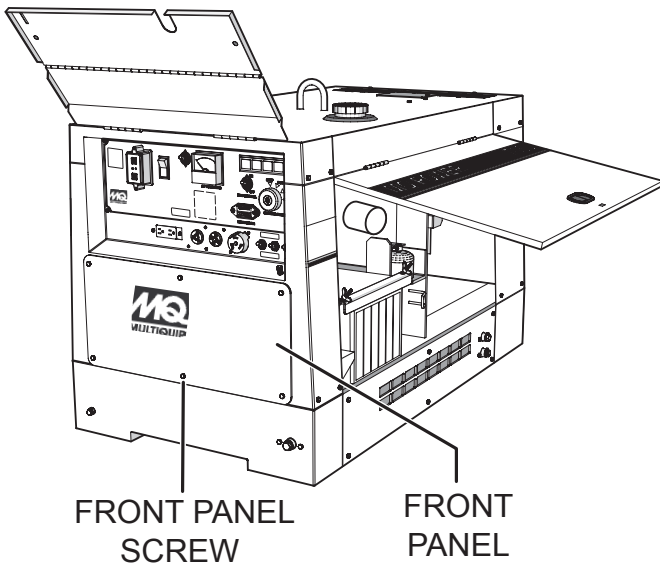

Figure 3. Front Panel Hardware Removal
1. Using a 10mm socket, remove the front panel screws (6) as shown in Figure 3.